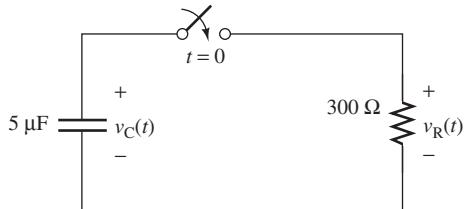

FIGURE P5.5 Circuit for Problem 5.5.
- 5.5** (A)* Find an expression for v_R in Figure P5.5, given that $v_C(0) = 5$ V. (The switch closes at $t = 0$.)